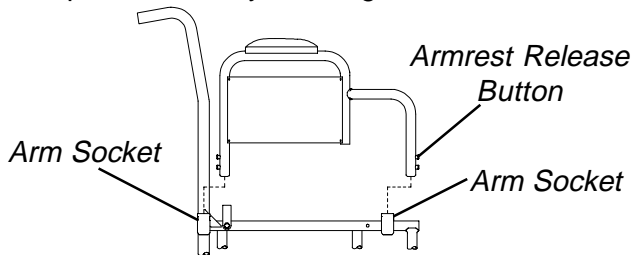

FIGURE 1 - REMOVING OR REPLACING STANDARD ARMREST
**REMOVING OR REPLACING STANDARD ARMREST (FIGURE 1)**